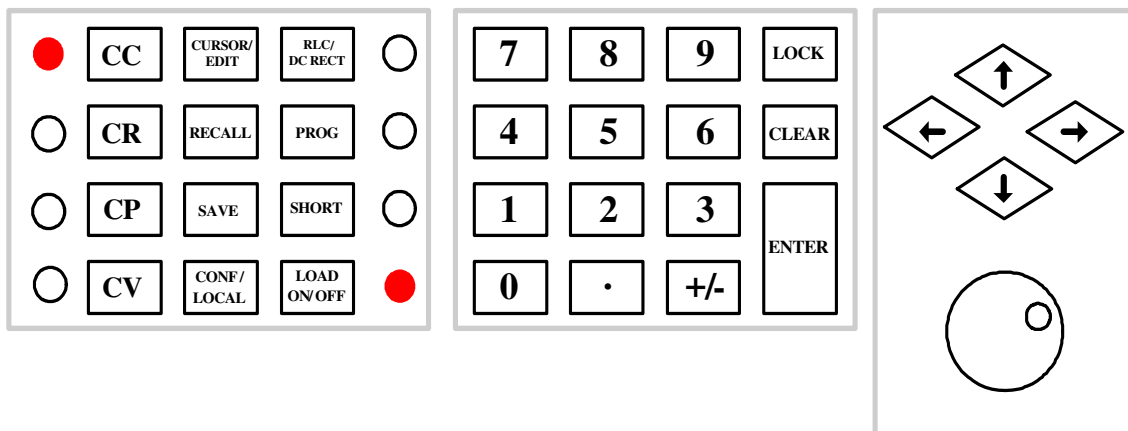

Figure 3-3 63800 Function & Entry Key Overview
All data set in any mode will be rescaled to fit the resolution of current/voltage levels, power value, crest factor (CF) or power factor (PF). In local mode any value can be set to the Load from the keypad. There is no upper and lower limit that would cause an error. The Load automatically selects data, which is rescaled from the programmed value, truncates and checks high, low boundary before fitting it into the memory. When the programmed data is over the boundary, the Load will be still at original value. In remote mode the programmed value cannot be over boundary. An error will occur when data is over the maximum or minimum value. The boundary of voltage and current of the load, as well as the power, are shown in Figure 3-3.